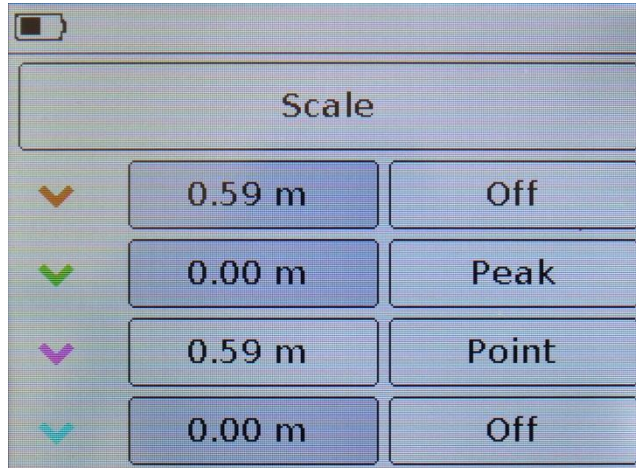

Figure 10.10 – Menu for selecting the measurement scale and setting markers
- Enter the **Plots** menu (Figure 9.6) and click on the field with the name of the chart. A menu will appear on the device screen as in Figure 10.10.
- To quickly switch from the **DTF** plot view to the setup menu (figure 10.10), press and hold the "**PLOT**" button (14) for about two seconds.